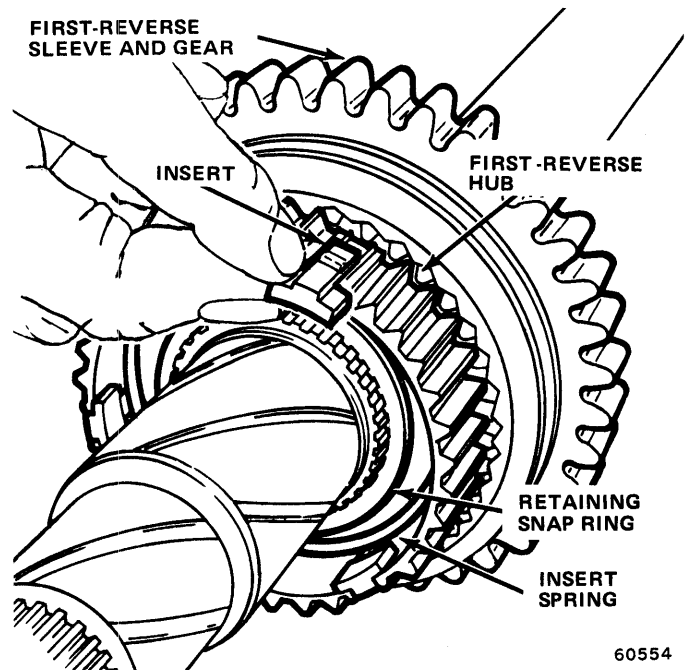
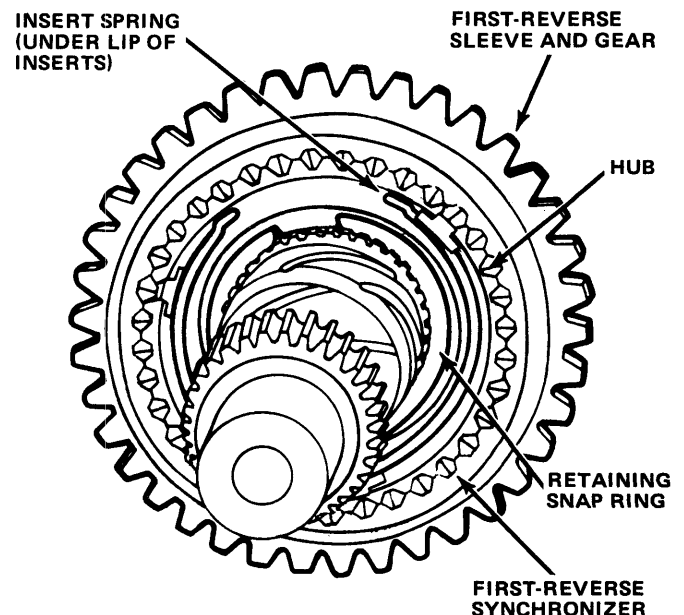

Fig. 6-9 Installing Inserts in First-Reverse Hub
Fig. 6-10 Snap Ring and Insert Spring Position in First-Reverse Hub
(10) Coat all splines and machined surfaces on main shaft with transmission lubricant and start first-reverse synchronizer hub on output shaft splines by hand. End of hub with slots should face front of shaft. Use arbor press to complete hub installation on shaft and install retaining snap ring in most rearward groove (fig. 6-9).
small ends in hub slots and large ends inside hub (fig. 6-9). Push inserts fully into hub so they seat on insert spring, then slide first-reverse sleeve and gear over inserts until inserts engage in sleeve (fig. 6-10).